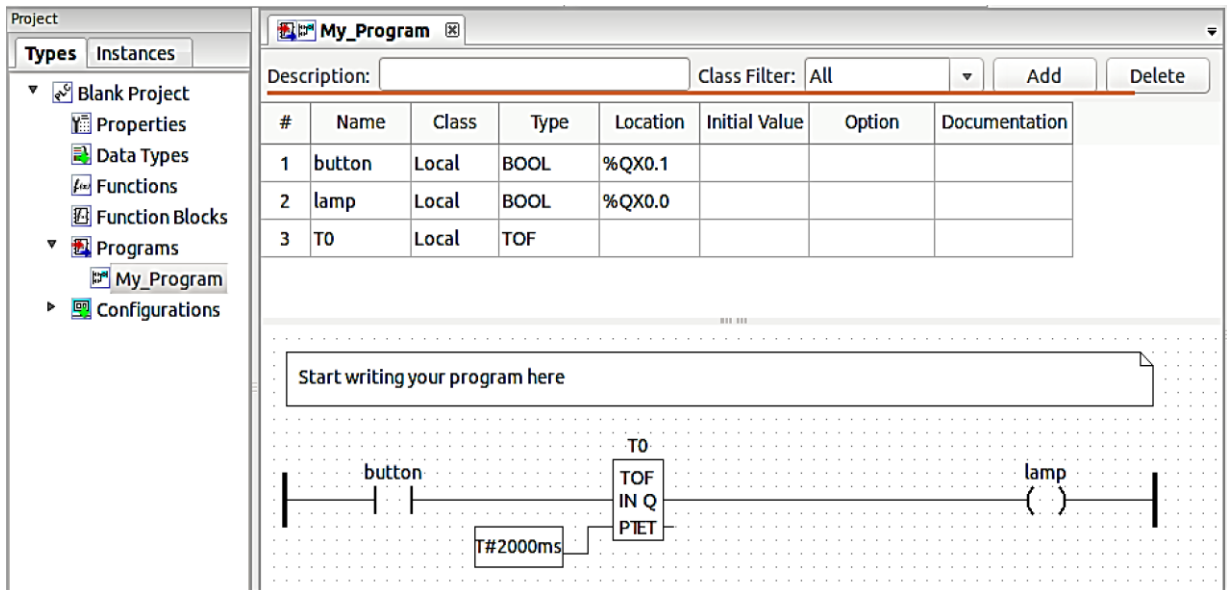

Figure 6. Modified Hello World program
3. Change the location of the button to %QX0.1 (Figure 6).